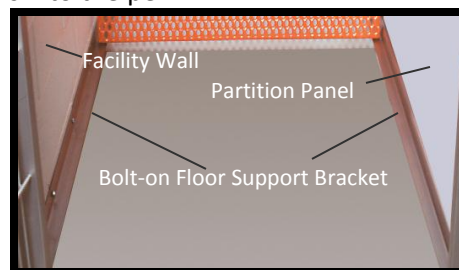

Figure 59: Bolt-on Floor Support Bracket
2. With a ½ in. wrench, remove the cap screws that hold the support bracket to the facility wall (Figure 59).